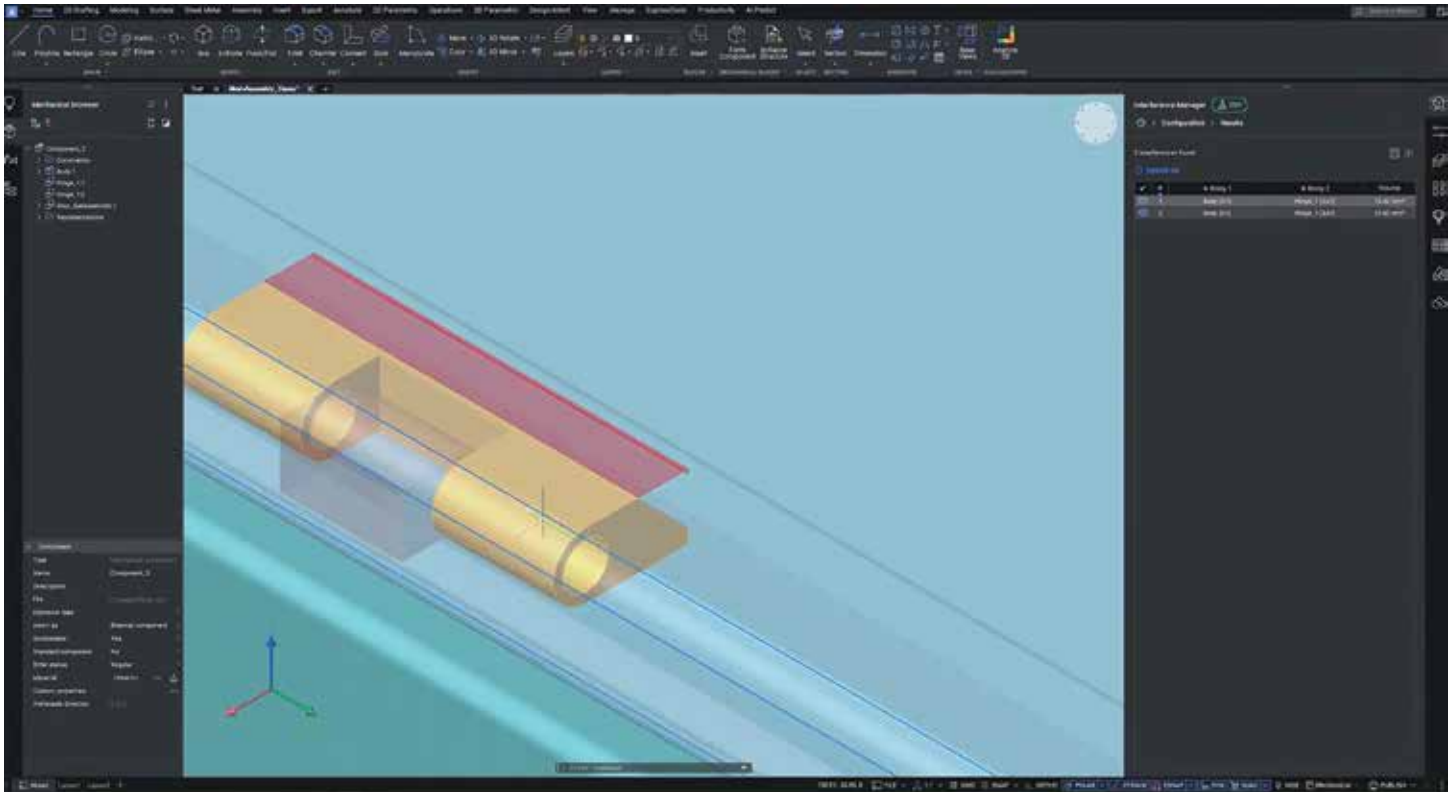

Figure 5
- Find interferences between selected solid entities. (See Fig.5)